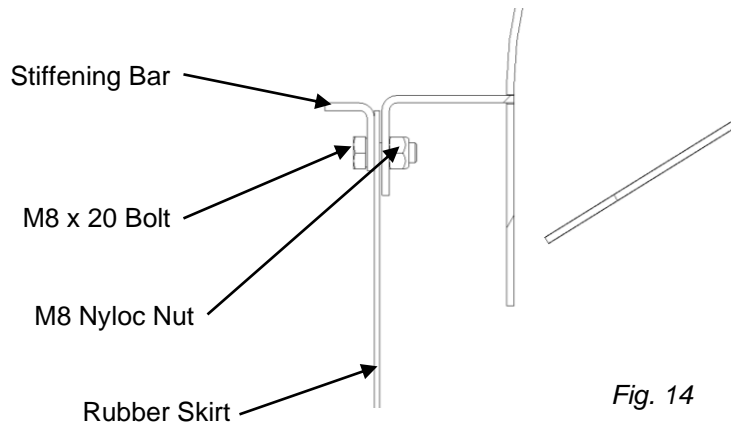

Fig. 14
3. When assembling, ensure the Stiffening Bar is inserted the correct orientation (see Fig. 14).